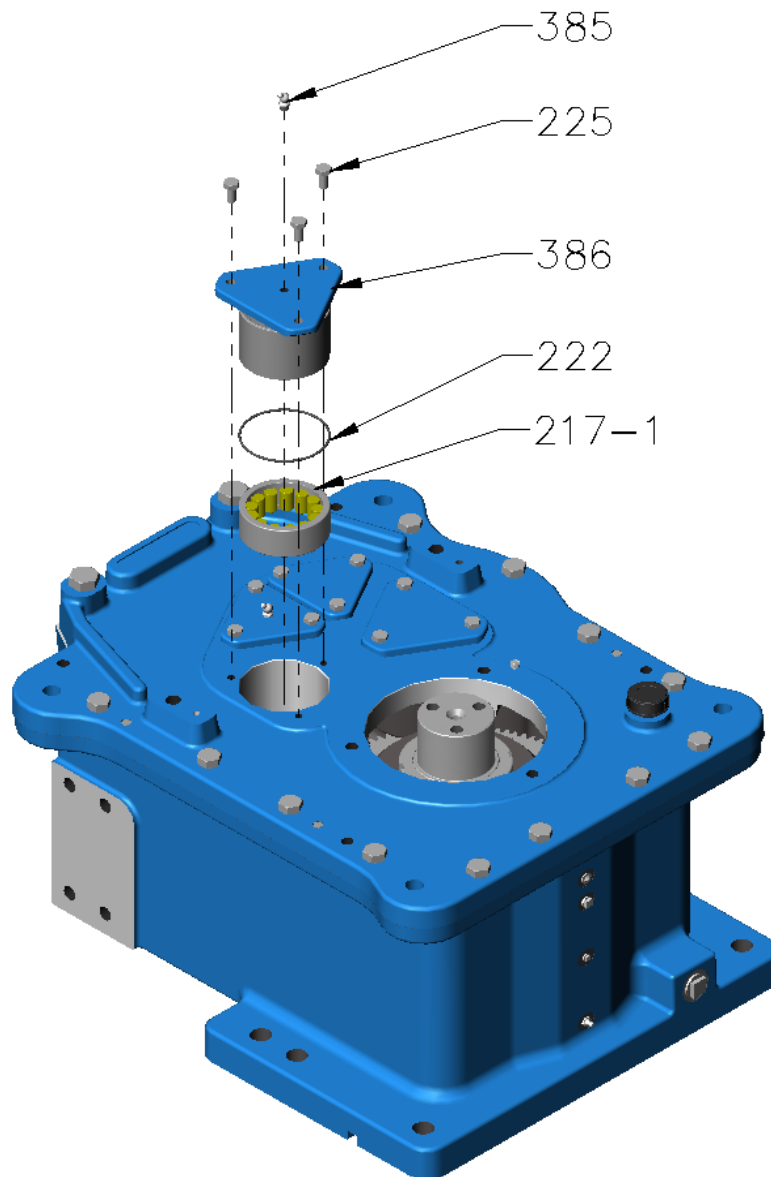

Figure 29 – Second Intermediate Cap
- X. At second intermediate shaft, install following items (refer Figure 29):